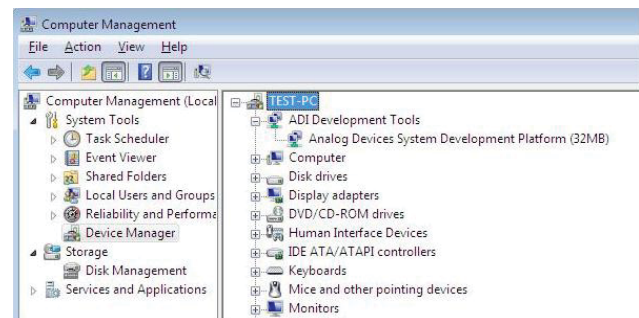

Figure 5. Device Manager
2. When the drivers are installed, check that the board has connected correctly by looking at the **Device Manager** of the PC. The **Device Manager** can be found by right clicking **My Computer**, selecting **Manage**, then **Device Manager** from the list of **System Tools** (see Figure 5).